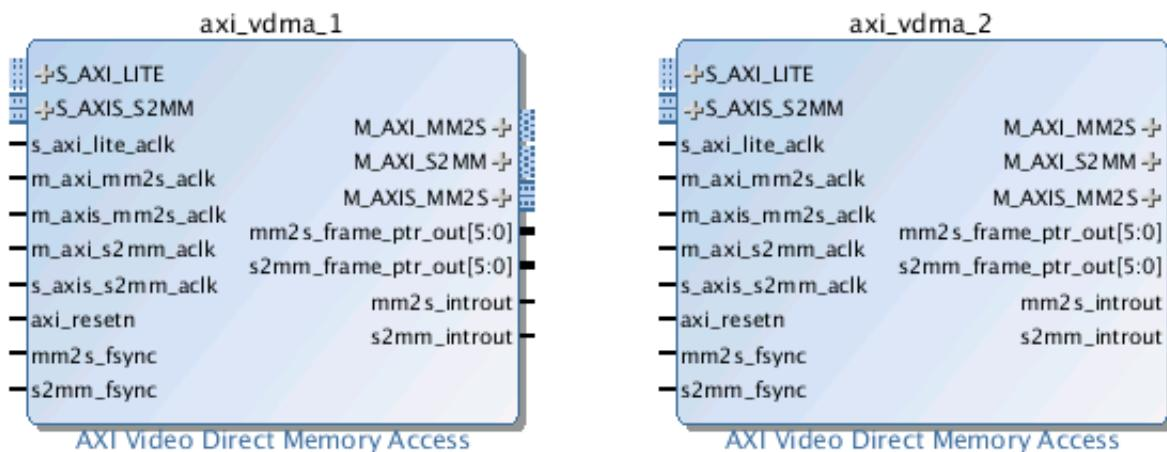

Figure 49: Two VDMA Blocks in Diagram
- Press **Ctrl+V** to duplicate it as **axi_vdma_2**, (Figure 49).